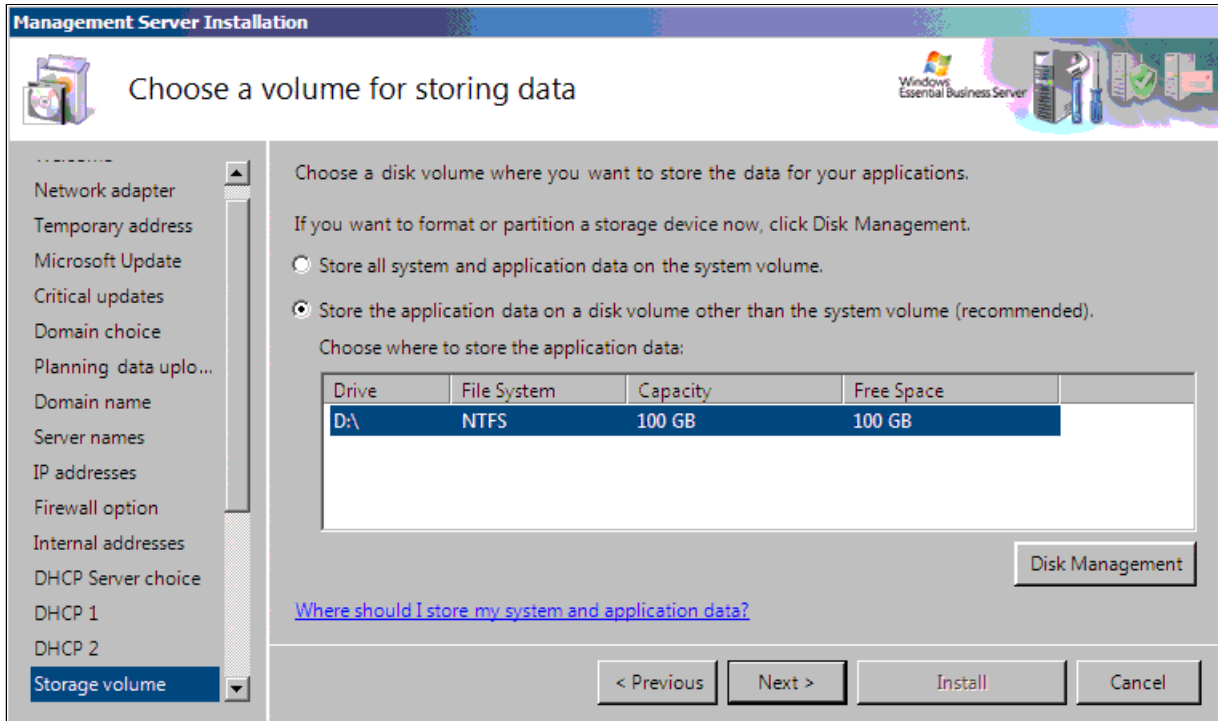

Figure 4-18 Choose a volume for storing data
25. On the “Choose a volume for storing data” panel (Figure 4-18), make the selection appropriate for your requirements. In our environment, we prepared a 100 GB RAID-5 volume on the SAS drives inside the Disk Storage Modules. We selected the **Store the application data on a disk volume other than the system volume (recommended)** radio button. Click **Next**.